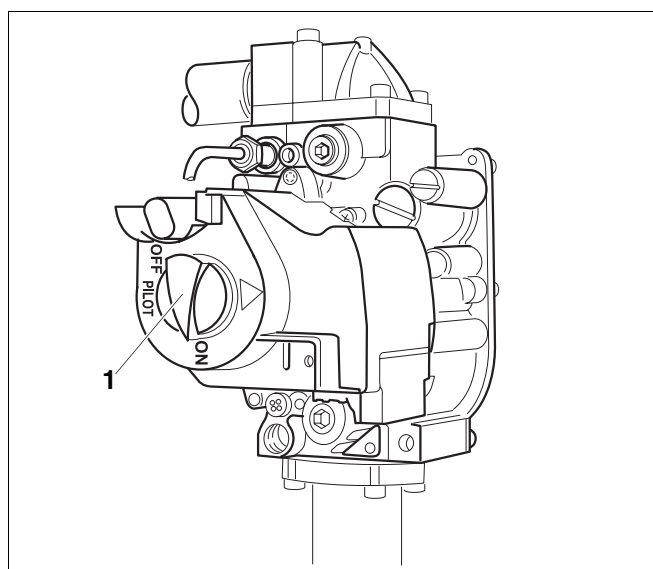

Fig. 17 G124X SP gas valve
57. Turn gas valve ON/OFF switch (→ Fig. 17) counterclockwise to PILOT position.
58. Wait three (3) minutes and turn gas valve ON/OFF switch (→ Fig. 17) counterclockwise to ON position. Gas must not flow into the main burner.
60. If gas flows turn gas valve ON/OFF switch (→ Fig. 17) to OFF position immediately and close the gas shut-off.